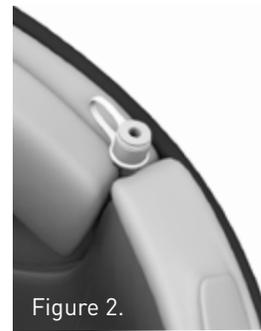

Figure 2.
5. Position the connector at the base of the helmet, using the Velcro fastener to secure it in position as shown in Figure 2.